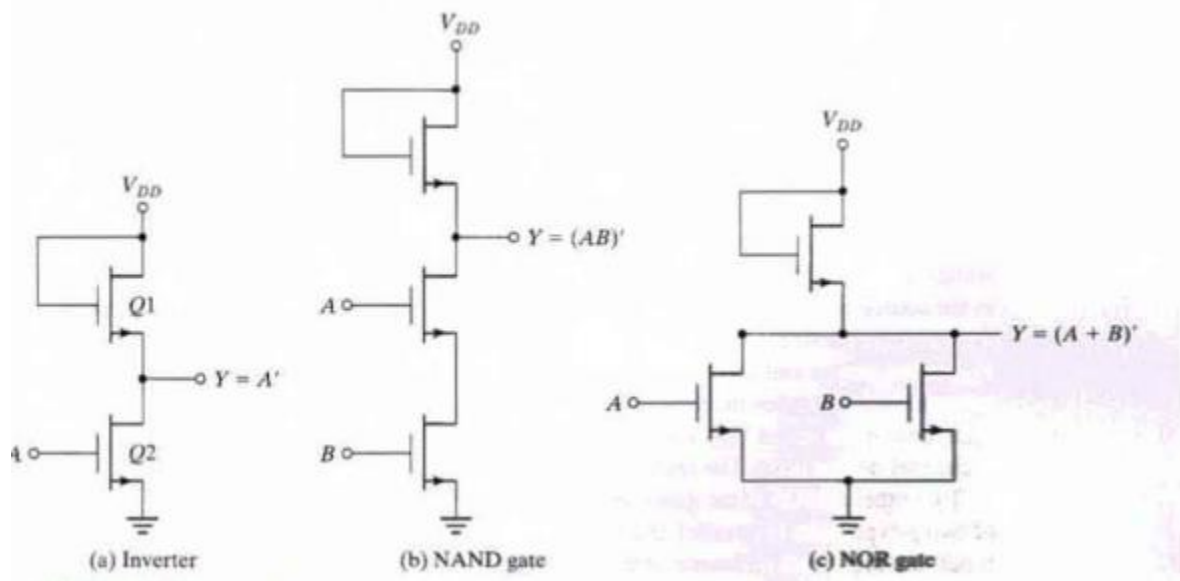

Fig 17. MOS logic circuits
- Figure 17 shows the MOS logic circuits using